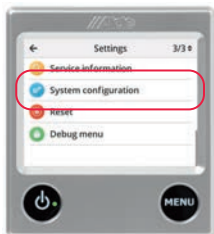

fig. 5
2. Select "System Configuration" by browsing Settings with the page view in the upper right, fig. 5.